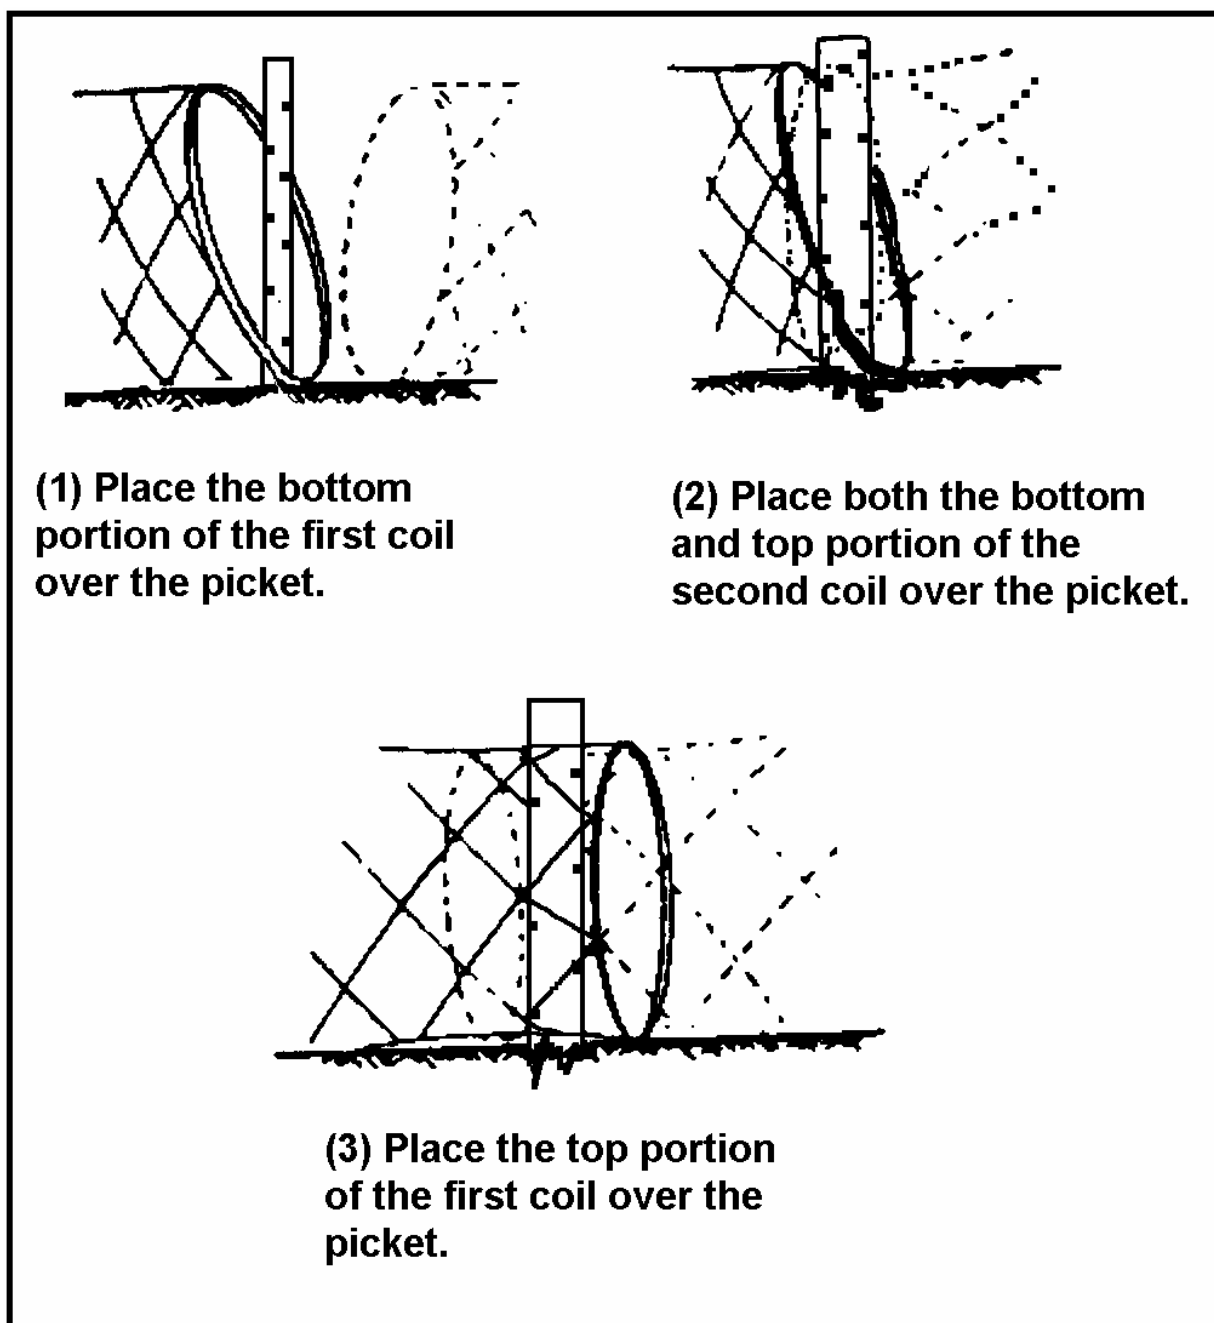

Figure 052-195-1020-4
- (2) Connect concertina when joining concertinas over a picket (Figure 052-195-1020-4).